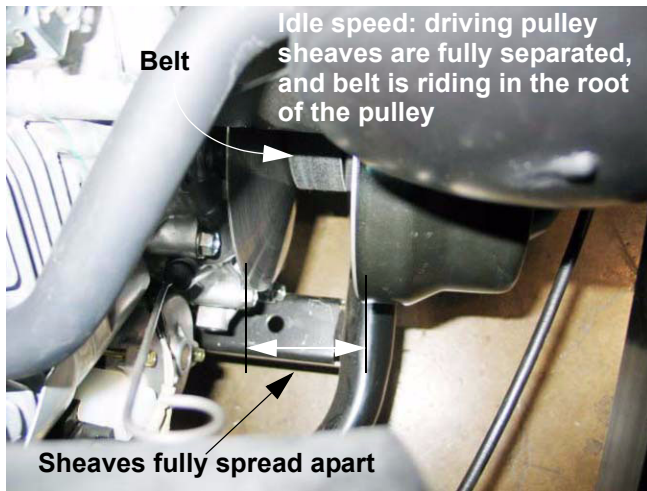

Figure 4.13
4.13. At around 1,400 RPM the sheaves of the driving pulley should begin to close on the belt. See Figure 4.13.